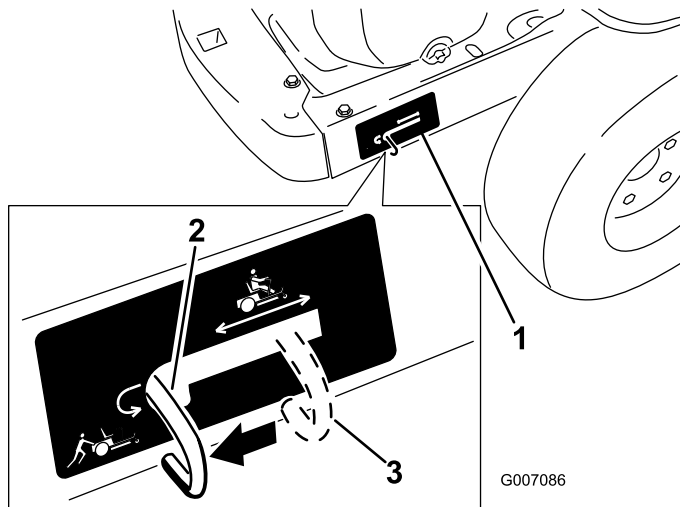

Figure 23
4. Move the bypass levers rearward and then down to lock them in place as shown in Figure 23 to disengage the wheel motors. Repeat this on each side of the machine.
Move the bypass levers upward and push them forward, to the **middle** of the horizontal slot (Figure 23) to engage the wheel motors.